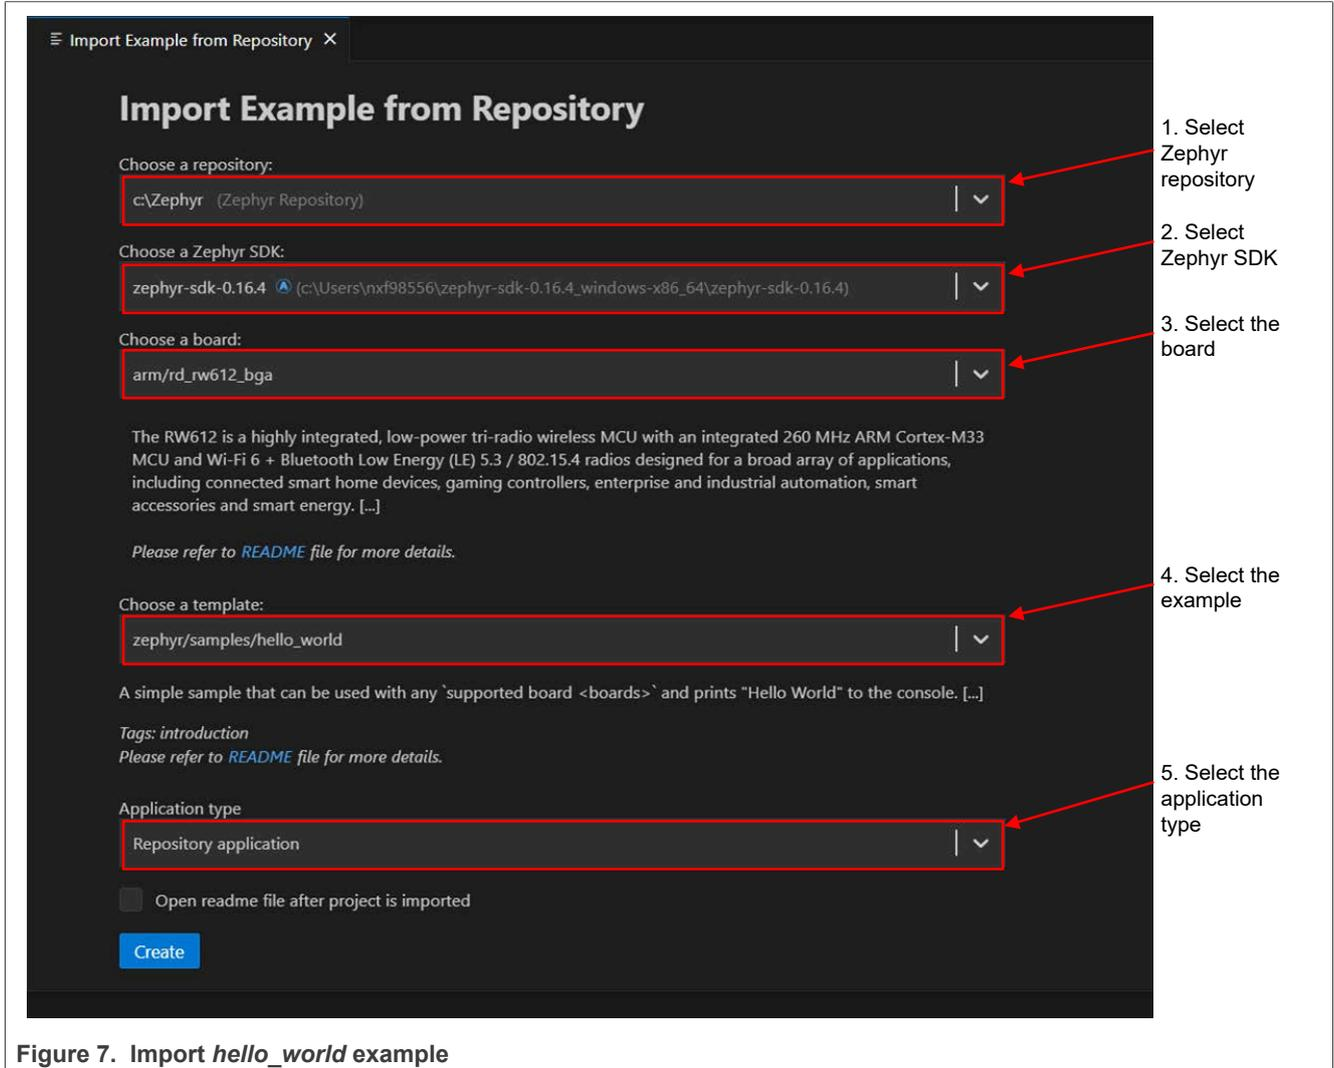

Figure 7. Import *hello\_world* example
**Step 7** - Choose a Zephyr repository, Zephyr SDK, board, and select a sample (Figure 7).